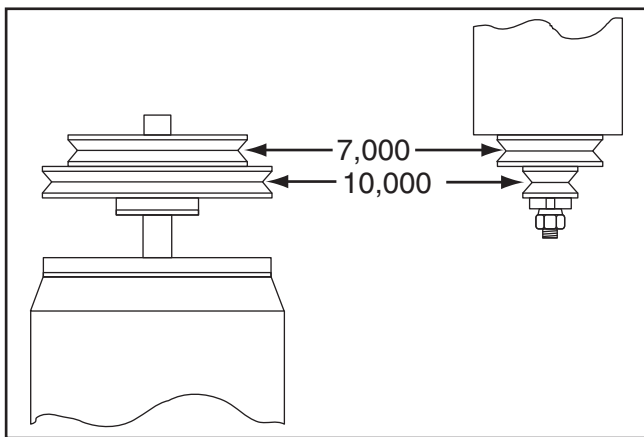

Figure 34. Speed change belt positions.
3. Move the V-belt to a sheave on the motor and spindle pulleys to select the desired speed (see **Figure 34**).